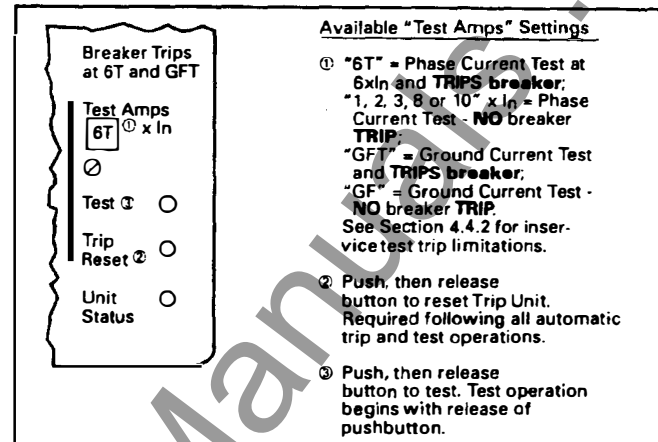

Fig. 9 Integral Test Panel (Lower Right Corner of Trip Unit)
As indicated in Fig. 9, note 1, six different "Test Amps" settings (1, 2, 3, 6T, 8 and  $10 \times I_n$ ) are available for testing the phase elements of the Trip Unit, and two settings (GF and GFT) are provided for testing the ground element.
1. Place the “TEST AMPS” selector switch (see Fig. 9) in one of the six “No Trip” test settings, i.e., 1, 2, 3, 8, or  $10 \times I_n$ , or GF.
4. Reset the Trip Unit by pressing and releasing the “TRIP RESET” push-button; all LEDs lighted by the “No Trip” test action should turn “OFF”, and the display will again show the value of the current through the breaker. In the event that no one resets the Trip Unit after a test, it will wait for about three (3) hours, and then it will automatically revert back to its pretest status.
2. Place the “TEST AMPS” selector switch (See Fig. 9) in either the “6T” (or “GFT”) position.
3. Press and release the (Black) “TEST” push-button (See Fig. 9) — the test starts when the push-button is released and the elapsed time is displayed in the window.
5. Reset the Trip Unit by pressing and releasing the “Trip Reset” push-button (See Fig. 9). All LEDs lighted by the “Trip” test action should turn “OFF”, and the display window will again show the value of current flowing in the breaker.